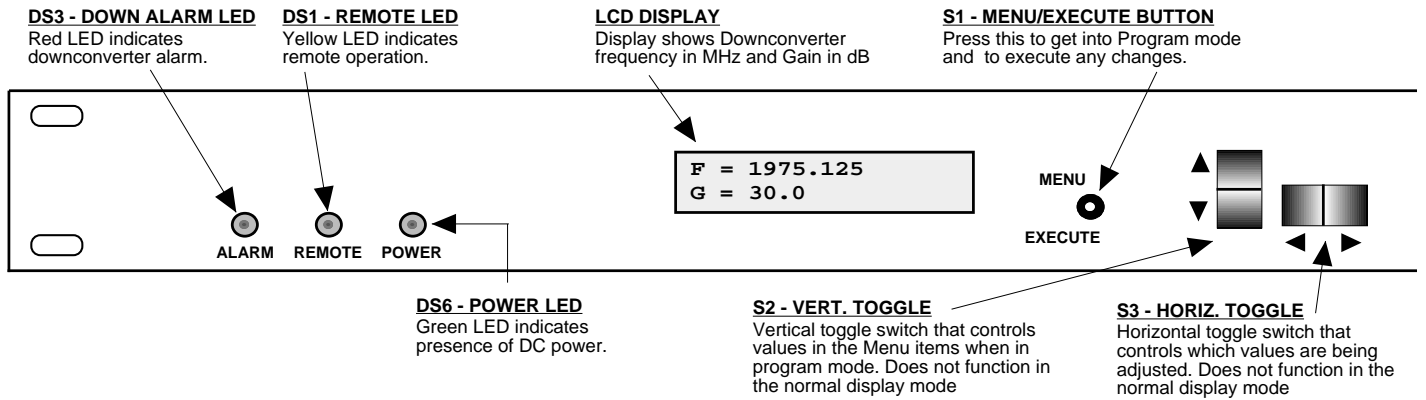

FIGURE 2.3 2016-02-1200 Front Panel Controls and Indicators
6. Be sure DS6 (green, DC Power) is on and DS3 (red, Alarm) is off (Figure 2.3).
Alarm indications appear on the LEDs (see figure 2.3).